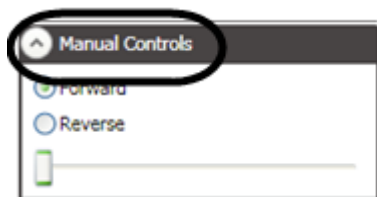

Figure 62
3. In the **Motor Editing Pane** on the right side of the screen, scroll to the **Manual Controls** section (Figure 62).